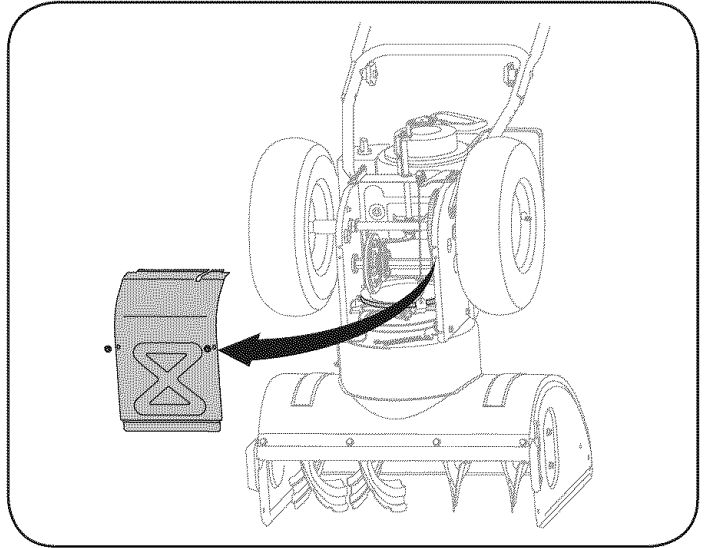

Figure 22
5. Remove the frame cover from the underside of the snow thrower by removing four self-tapping screws which secure it. See Figure 22.
- Remove the frame cover from the underside of the snow thrower by removing four self-tapping screws which secure it. Refer to Figure 22.